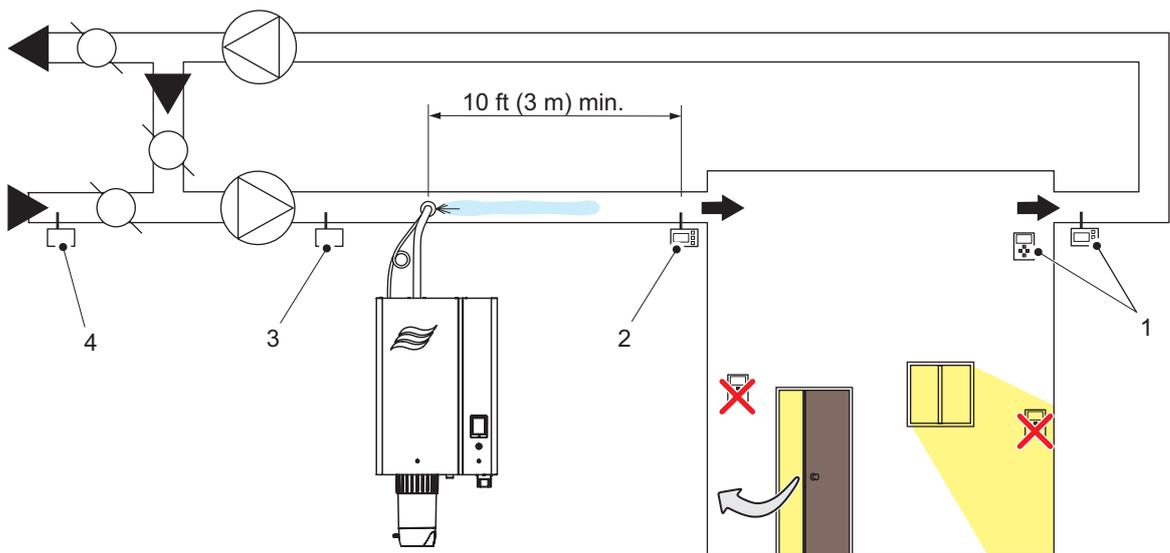

Figure 24: Duct Humidity Control Location
When using the supply air duct for steam distribution, Condair highly recommends the use of an air proving switch and a high limit humidistat in addition to a humidity controller. Environments with exterior walls should also consider using an outdoor temperature sensor in the system. Refer to Figure 24.
- The distance between the steam distributor and the Condair duct humidistat or transducer should be minimum 10 ft (3 m), or greater than the calculated absorption distance. Refer to Figure 24 on page 43.